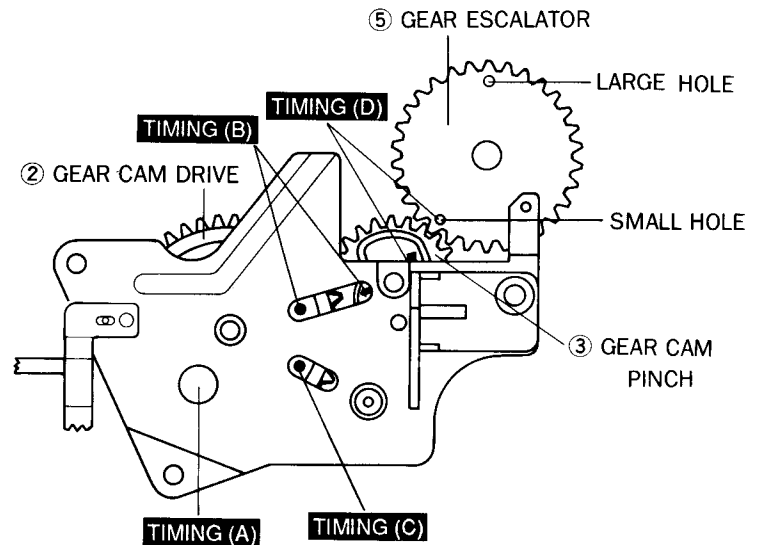

Fig. 42 Reassembly of Drive Pinch Ass'y & Gear Escalator
5. While installing align the arrow mark of the gear cam pinch ③ with the hole of the gear escalator ⑤.
(Refer to timing (D) in Fig. 42)
6. When aligning the timing (D), be sure to line up the timing (A), (B), (C).
7. Install the two (2) screws.